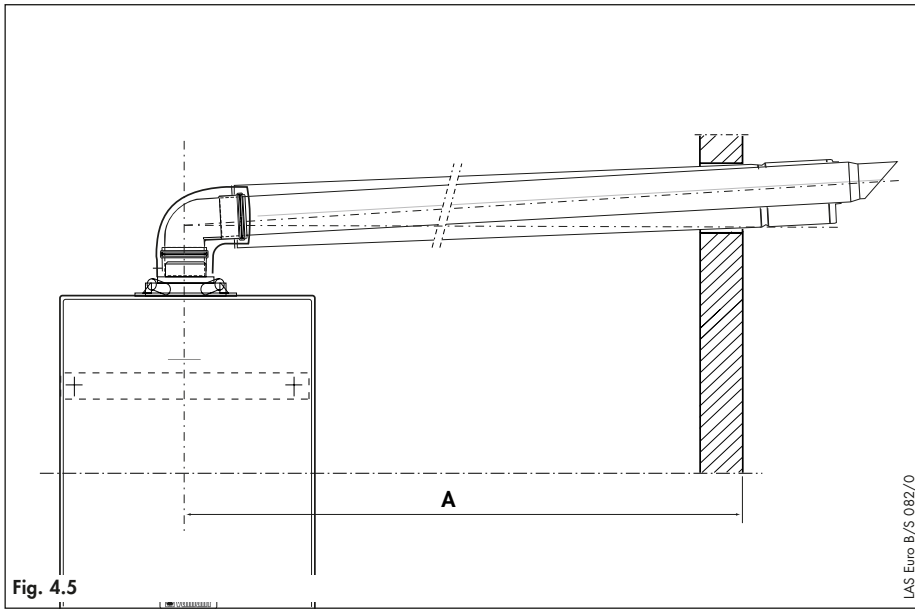

Fig. 4.5
- Measure the distance from the outside face of the wall to the centre of the fan outlet on the boiler (fig. 4.5). **This is dimension A.**
- For installations where the measured distance dimension A (fig. 4.5) is greater than 960 mm, an air/flue extension accessory will be required. The number of air/flue duct extensions which can be used depends on the boiler.